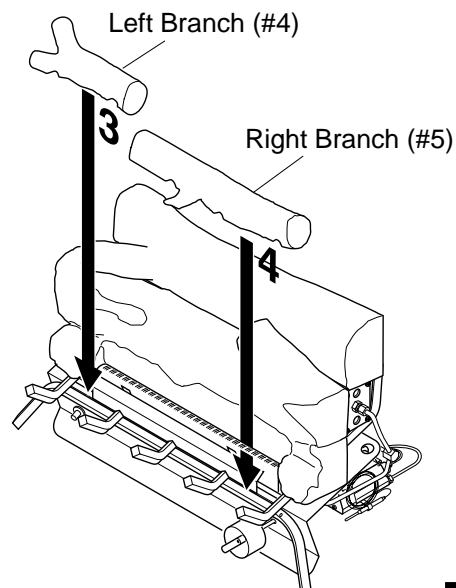

Figure 18 - Installing Rear Log
3. Place left front branch (#4) and right front branch (#5) (24" and 30" models) or front branch (#4) (18" model) into place (see Figure 18). Make sure notches on bottom rest on grates.